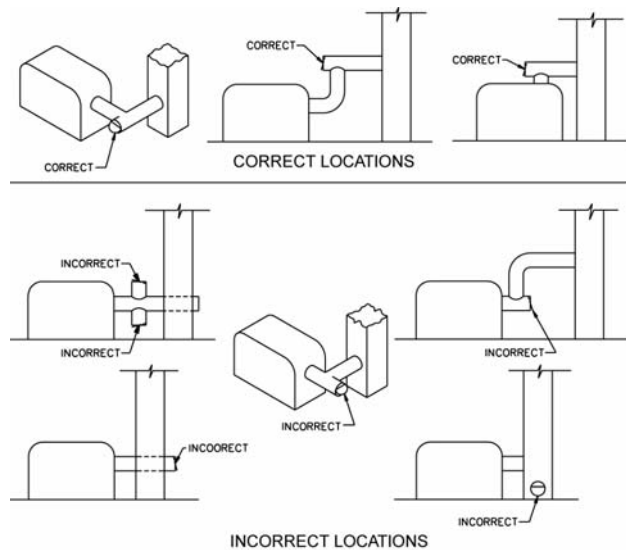

Figure 6: Location for Barometric Draft Regulators
- Two kinds of draft control are acceptable; an A.G.A. type draft hood as illustrated in Figure 5, or a barometric damper as shown in Figure 6. Use of a draft hood is usually limited to burners with lower range capacities, while a barometric draft control is suitable for all capacities. Application should depend on the requirements of the installation.